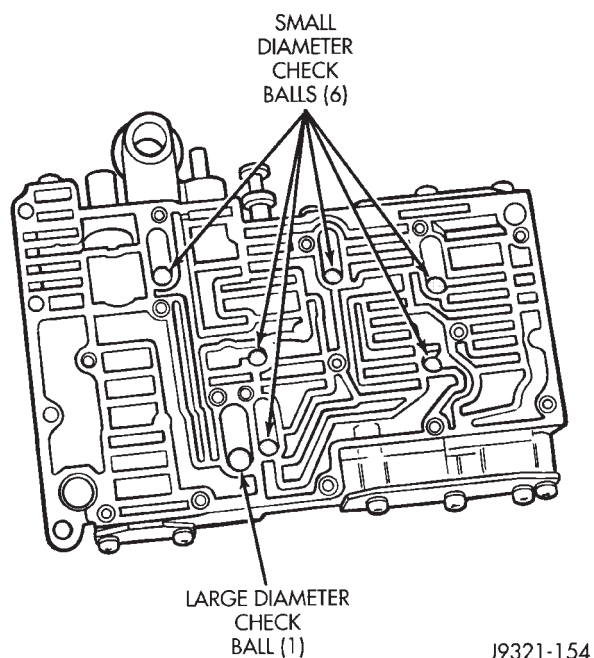

Fig. 68 Check Ball Locations In Upper Housing
(1) Note location of check balls in valve body upper housing (Fig. 68). Then remove the one large diameter and the six smaller diameter check balls.